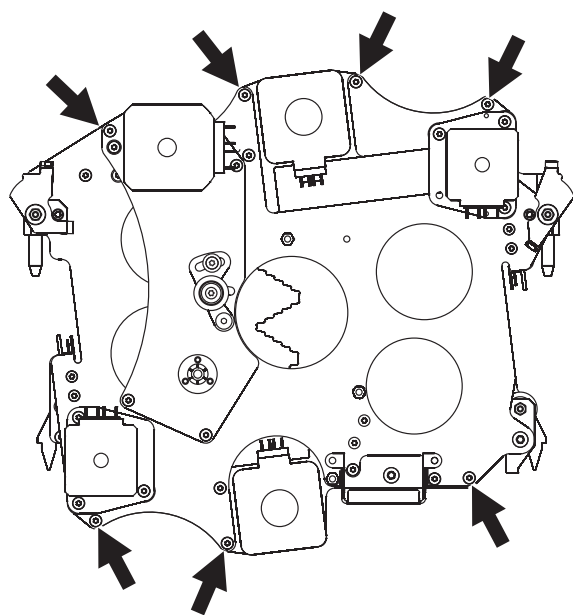

Figure 18
21. See Figure 18. Replace the seven panhead Torx M3 x 10 screws (arrowed) from around the outside of the inner aperture plate with seven of the ten M3 x 20 pillar bolts (P/N 08053814) supplied in the kit. Use a 5.5 mm open-ended wrench to hold the pillar under each screw while you remove the screw and replace it with an M3 x 20 pillar bolt. Keep the original seven screws for re-use.